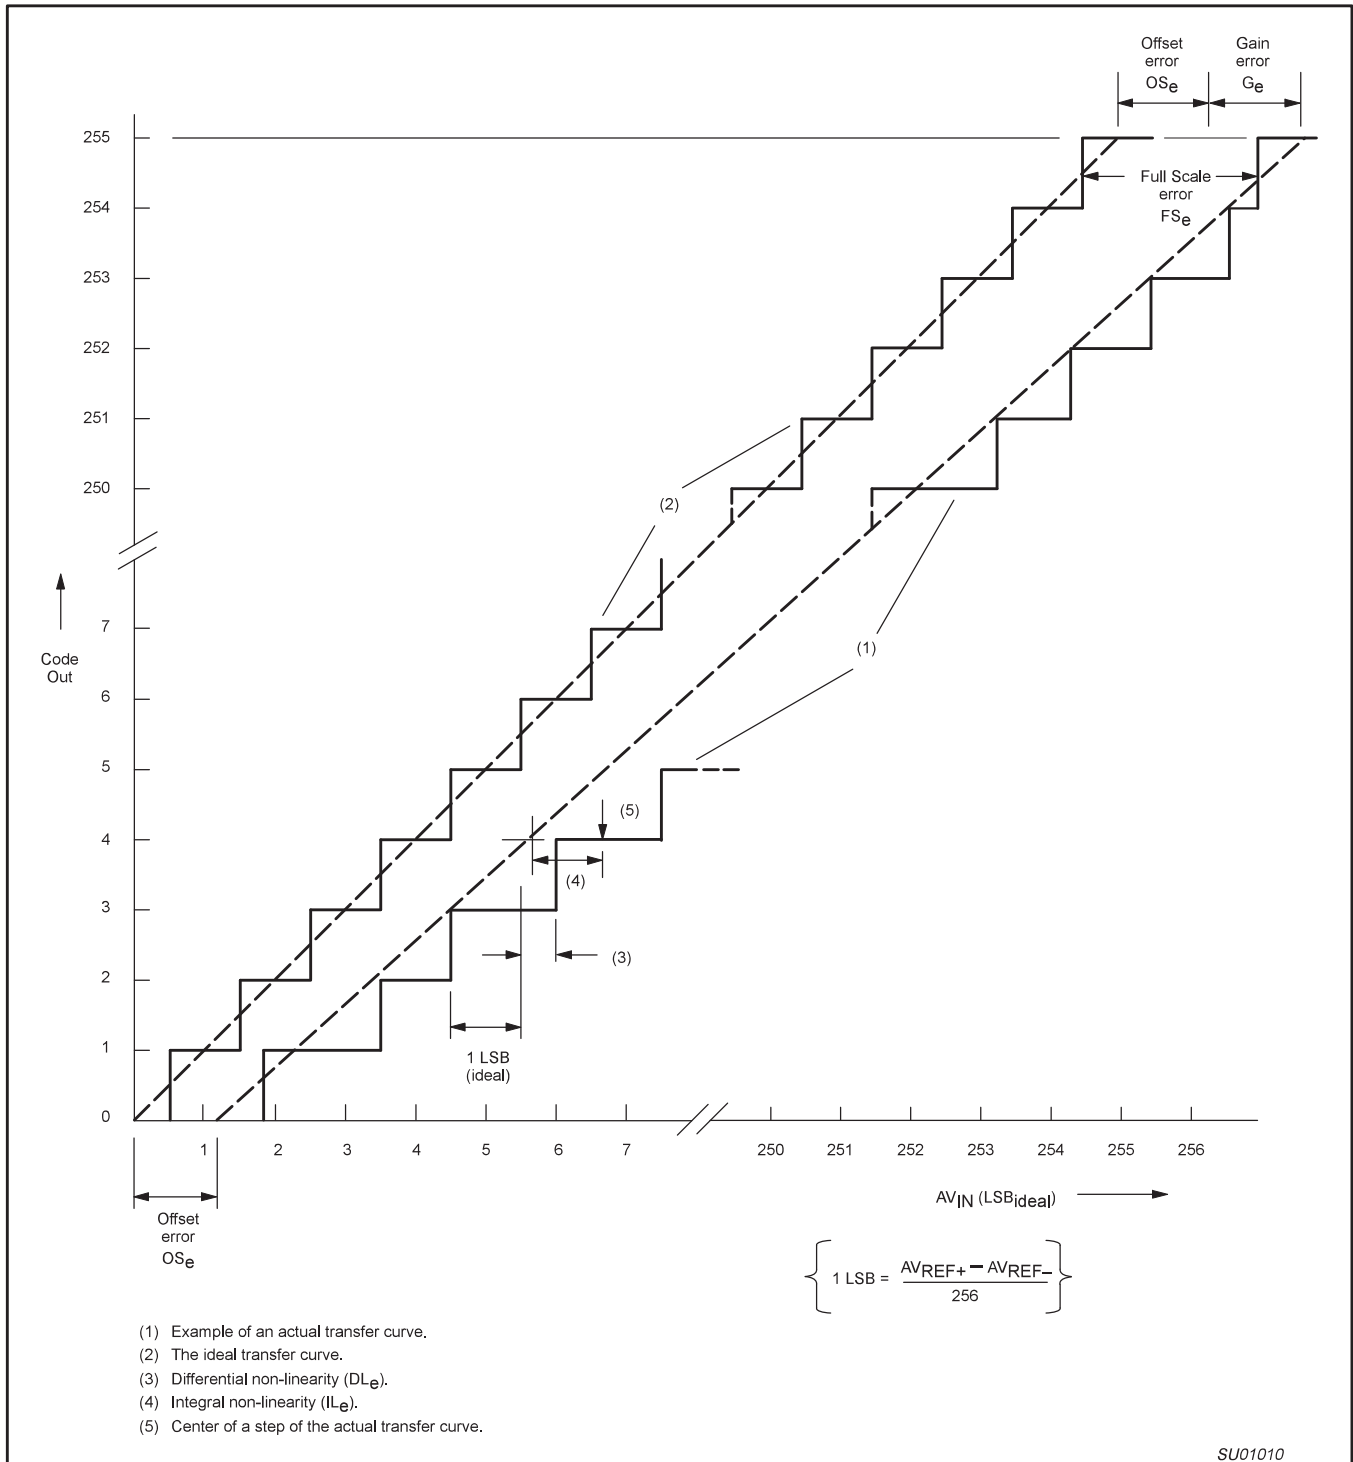

Figure 25. ADC Conversion Characteristic
2. The differential non-linearity (DL_e) is the difference between the actual step width and the ideal step width. See Figure 25.
4. The integral non-linearity (IL_e) is the peak difference between the center of the steps of the actual and the ideal transfer curve after appropriate adjustment of gain and offset errors. See Figure 25.
5. The offset error (OS_e) is the absolute difference between the straight line which fits the actual transfer curve (after removing gain error), and the straight line which fits the ideal transfer curve. See Figure 25.
6. The gain error (G_e) is the relative difference in percent between the straight line fitting the actual transfer curve (after removing offset error), and the straight line which fits the ideal transfer curve. Gain error is constant at every point on the transfer curve. See Figure 25.